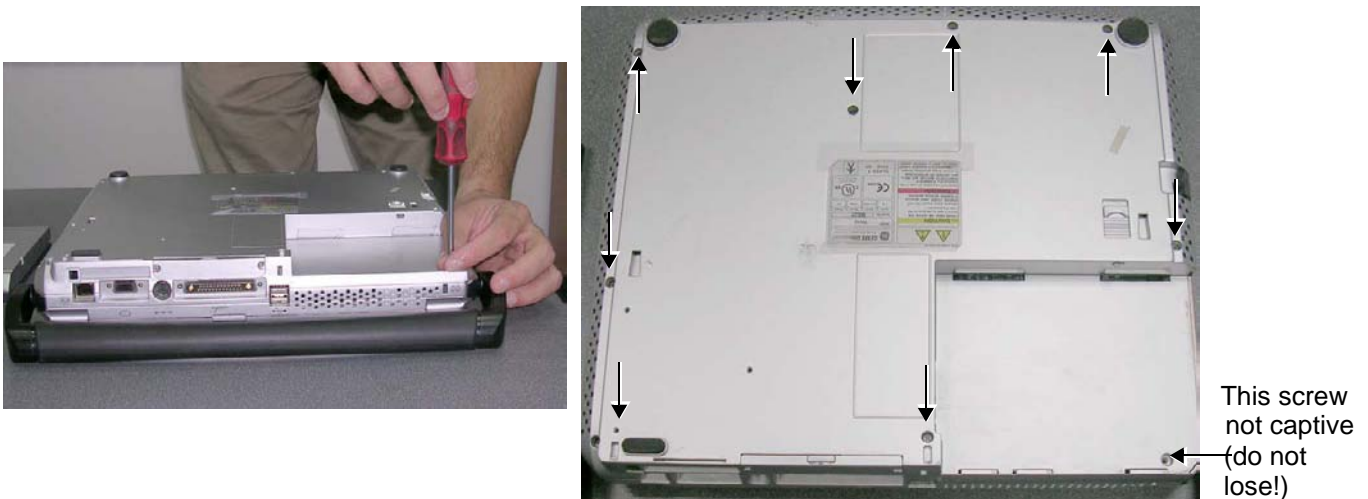

Figure 8-6 Removing the Fastening Screws from the Bottom Assembly
- 2) Loosen and remove each of the 9 screws that fasten the Control Panel and Keyboard onto the Bottom Assembly, as indicated in Figure 8-6 below.
- 5.) Return and fasten each of the 9 screws that secure the Control Panel and Keyboard onto the Bottom Assembly (refer to Figure 8-6, above).